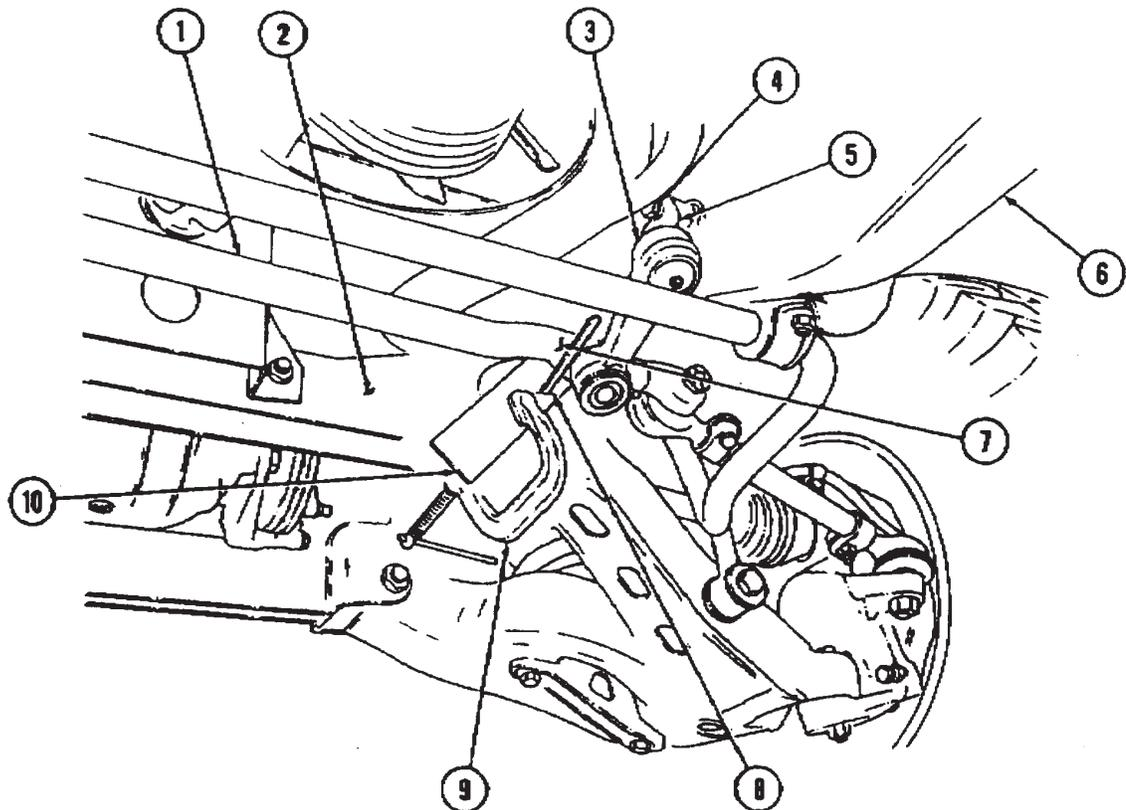

Figure 7-3. Idler Arm Inspection and Check.
c. Idler Arm Inspection (Figure 7-3, 7-4, and 7-5)
6. Secure steel plate or scrap metal (10) to front crossmember (2) with clamp (9) as shown in Figure 7-3.
7. Pull center link (1) in downward direction to seat ball and socket of idler arm (3) as shown in Figure 7-3.
8. Use flat surface (7) of center link (1) as a guide, mark reference line one (8) on steel plate or scrap metal (10) as shown in Figure 7-3.